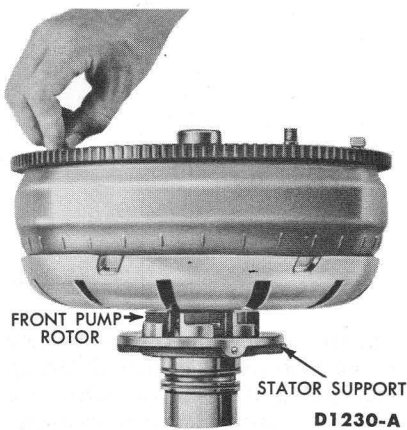

FIG. 4—Stator to Impeller Interference Check
3. Install the output shaft in the case (Fig. 4). Some difficulty may be experienced in starting the output shaft flat surface into the rear pump rotor. The flat on the output shaft and the flat in the rotor should be up (actually toward the bottom of the transmission). The slipper springs will
1. Position a stator support shaft on the bench with the spline end of the stator shaft pointing up (Fig. 4).